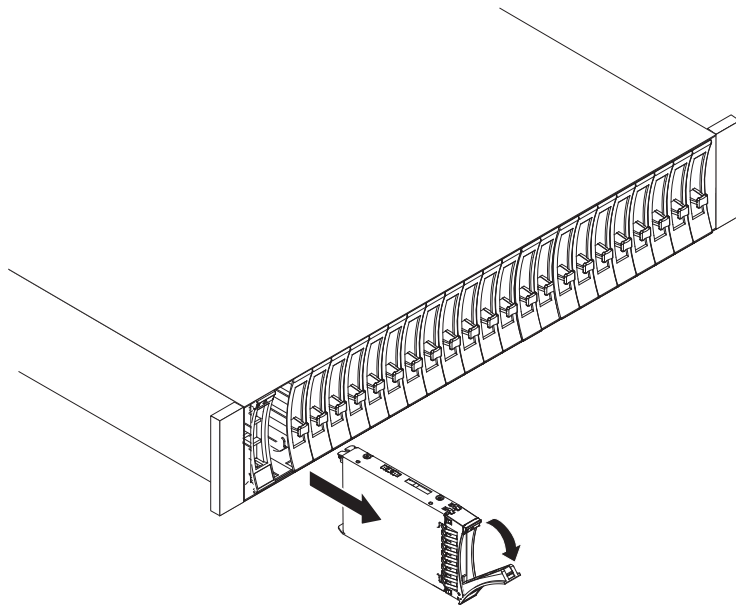

Figure 30. Unlocking and removing a 2.5-inch drive from its slot
5. Pull out the tray handle to the open position (see Figure 30 on page 161).